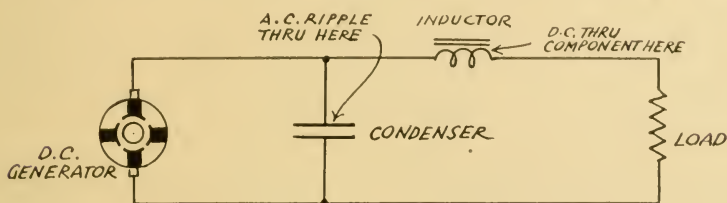

FIGURE 109
(9) When two different currents flow in one wire that branches into two parallel circuits (see Fig. 109) the currents can be separated and each made to flow
For example, in the case of direct and alternating current flowing in the one wire, one of the two branches forking from this wire may contain an inductor in series with it, the other a capacitance or condenser. The direct current then will complete its circuit through the inductor, since it cannot flow through a condenser. The alternating current, which has great difficulty flowing through an inductor, will (as explained on Page 467) complete its circuit through the condenser. (See Figure 109.)